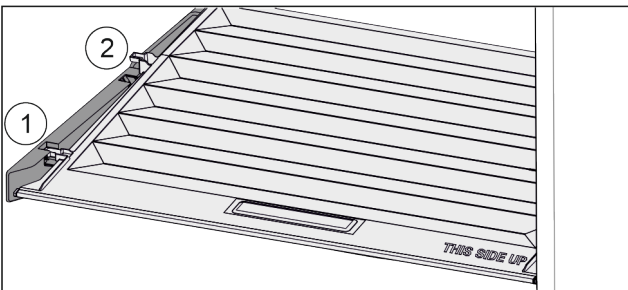

Fig. 157
- ▶ Pull the lid up at the front to the opening in the retaining parts Fig. 157 (1).
- ▶ Lift from the back and pull it up and out Fig. 157 (2).